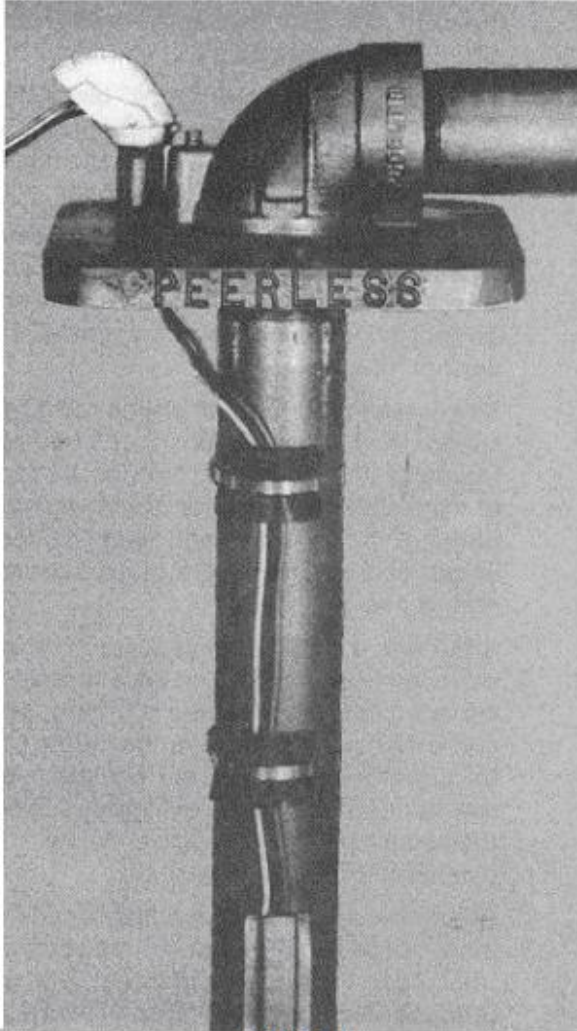

FIGURE 4
At least once for every twenty feet of drop pipe band the cable to the drop pipe. Apply the bands in accordance with the procedure described in Figure 3. See also Figure 4 for a pictorial description of the banding at the upper end of the drop pipe and the route of the cable through the cable entrance fitting (cable entrance fitting is optional). The following recommendations will help to assure a satisfactory cable installation:
- c. It is good practice to install a rubber "boot" under the band, as shown in Figure 4. This helps to keep the bands in place.
2.8.3 While the pump remains suspended, unroll enough electrical cable to reach the pumping plant panel. Cut the cable. Test the cable as described in paragraph 2.1. Pass the cable through the (optional) cable entrance fitting. Band the cable to the drop pipe as shown in Figure 4.